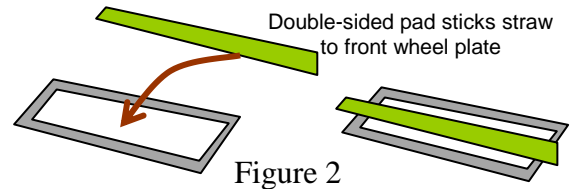

Figure 2
3.1 Attach the loop Velcro pad to the front wheel plate on the opposite side to the double-sided adhesive pad. Remove backing paper from self-adhesive pad, align and attach straw **parallel** to plate (**Fig. 2.**)